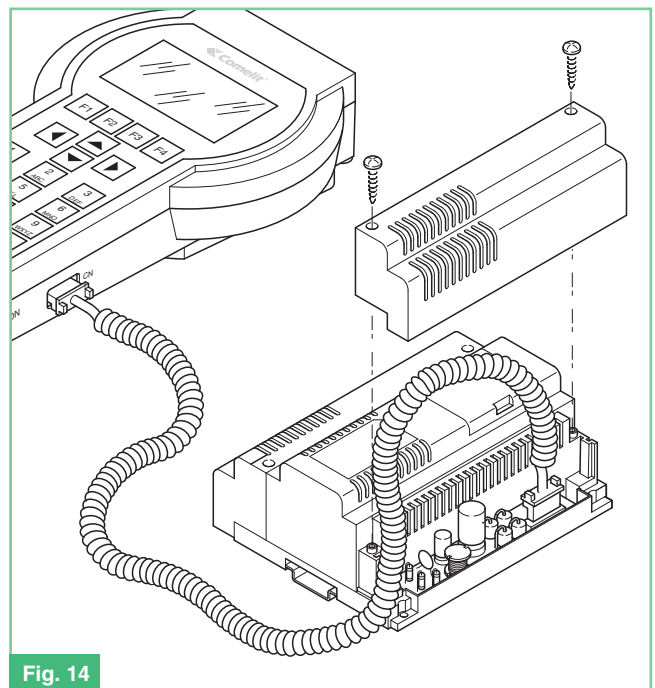

Fig. 14
3. Connect the other end of the programming cable to the polarised connector on Art. 4897 as shown in figure 14.